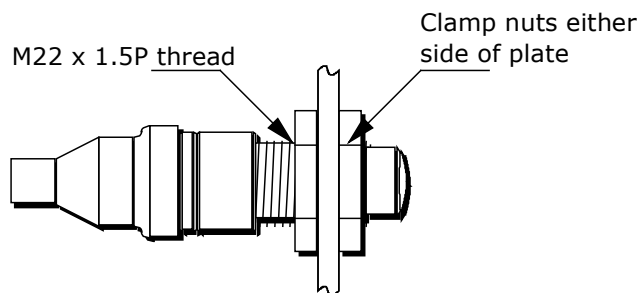

Fig. 3-2 Mounting the optic head into a plate
- 1) Refer to Fig. 3-2. Unscrew the clamp nut nearest the lens on the optic head.